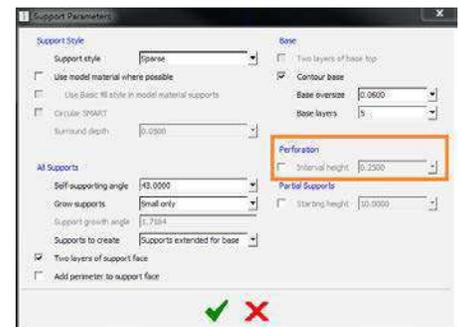

Figure 2: Clearing the checkbox in the Support Parameters dialog box to remove perforations.
STEP 3: In the **Perforation** section, clear the checkbox next to **Interval height** to remove all perforations (Figure 2).